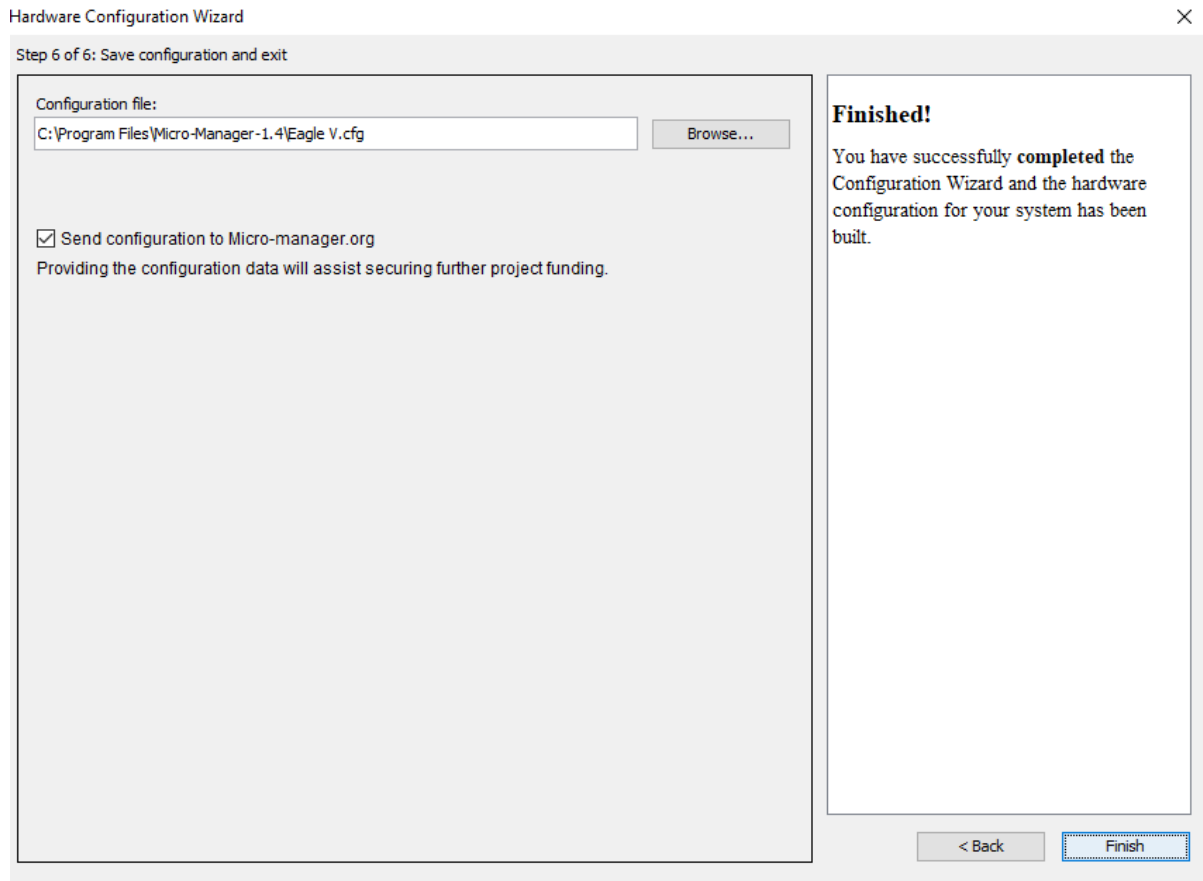

Figure 21: Save Configuration
1. Go to the Modify/Contrast Modification menu, Figure 21.
4. Rename and save new configuration (e.g. "Eagle V" as shown in Figure 21).